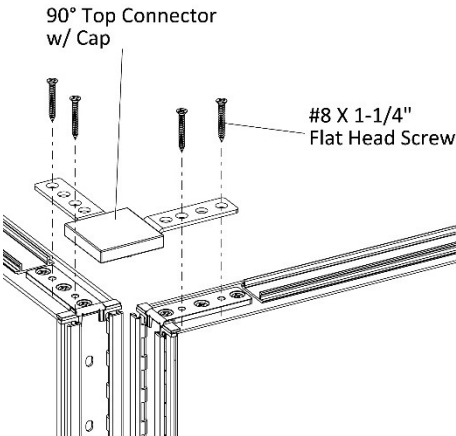

Figure 2
4. Drive four #8 X 1-1/4" Flat Head Screws through the holes in 90-degree top connector into the panels, (Figure 2).